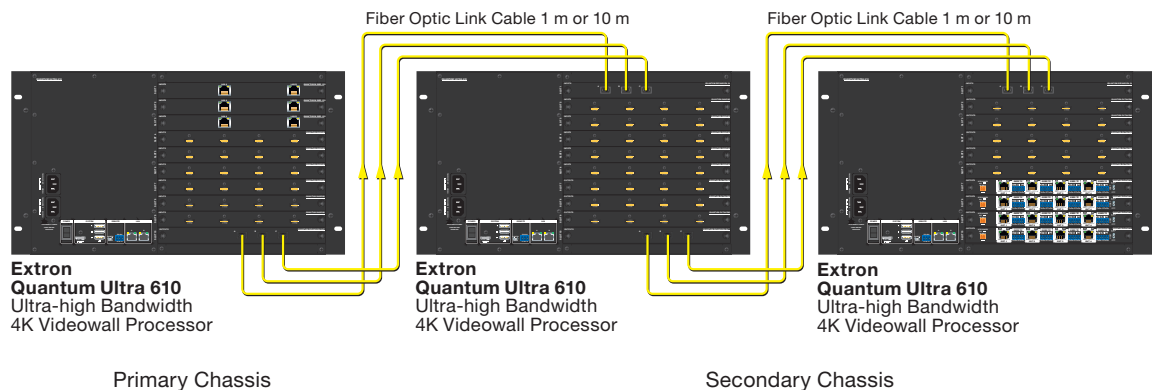

Figure 44. Expansion Card Connection
1. Connect three MPO cables between **Expansion OUT card** connectors A, B, and C of the **primary** chassis and **Expansion IN card** connectors A, B, and C of the **first secondary** chassis in the chain. Always connect output A to input A, output B to input B, and output C to input C (see figure 44).